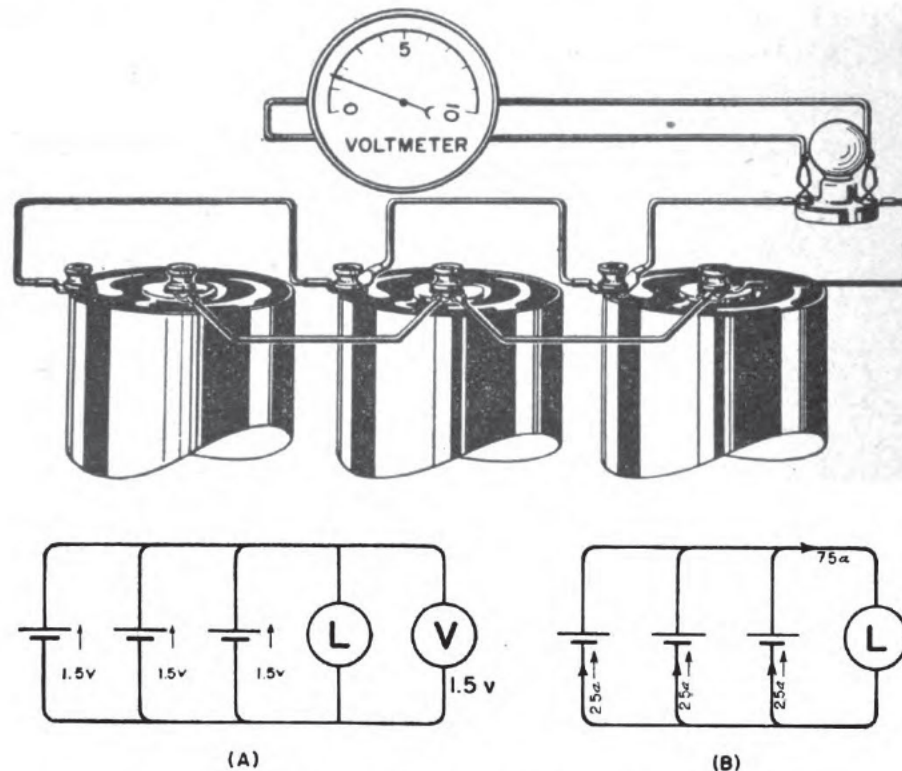

Figure 69.—Cells in parallel.
and all the negative terminals to another conductor. In (A) of figure 69, you have three 1.5-volt cells in parallel.
If each cell in (B) of figure 69 is rated at 30 amperes maximum, you obtain a total current of 90 amperes. If the load circuit requires 75 amperes, each cell supplies 25 amperes.